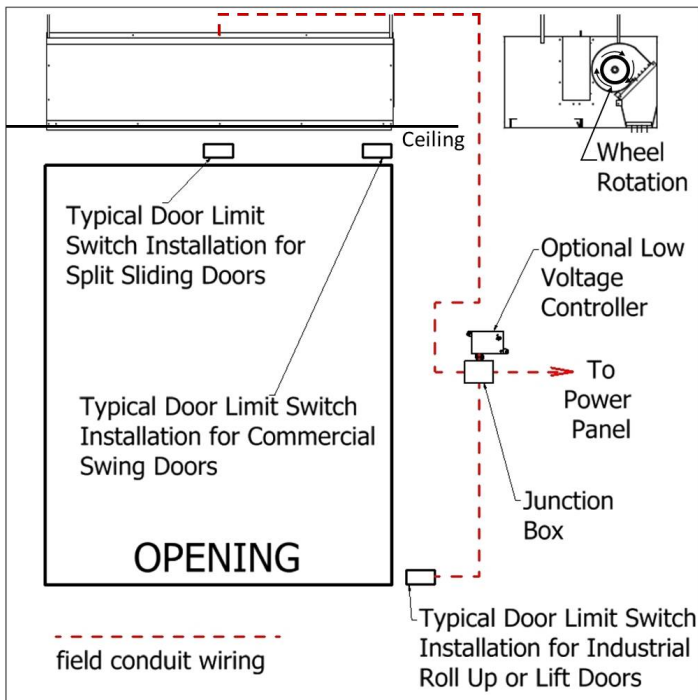

FIG. 3
2. The unit and any optional accessories must be wired with the proper voltage to the junction box per the wiring diagram. (FIG. 3, unheated products only)
3. All 3 phase motors are bi-directional, which means they can rotate in either direction. Follow directional arrows on the blower wheel housings for proper rotation. If the motor is rotating incorrectly, switch two of the 3 phase power or motor leads and the motor will rotate the opposite direction. Make sure all motors are turning in the same and proper direction. (FIG. 3)